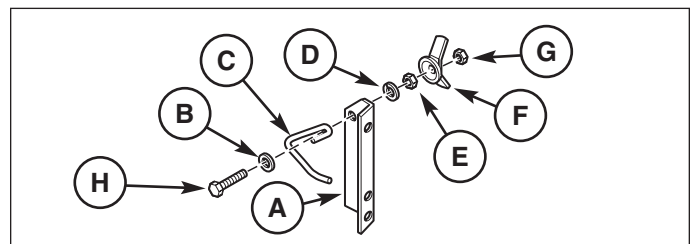
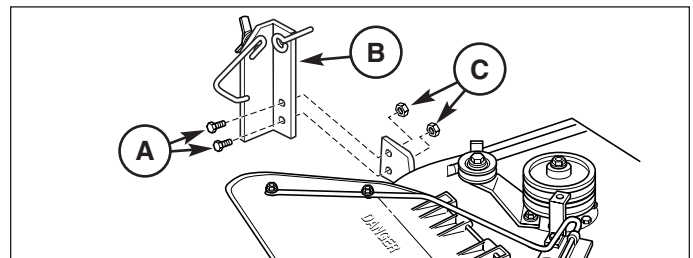

Figure 11. Anchor Bracket Assembly
Figure 12. Anchor Bracket Installation
1. See Figure 12. If not already done, assemble the anchor bracket and related components as shown in Figure 11.
2. Attach the anchor bracket assembly (B, Figure 12) to the mower deck using 5/16-18 x 1 capscrews (A) and 5/16-18 locknuts (C).
2. After the belt is installed, adjust the belt stop (D, Figure 11 & 12) so that it is 1/8” away from the backside of the belt.